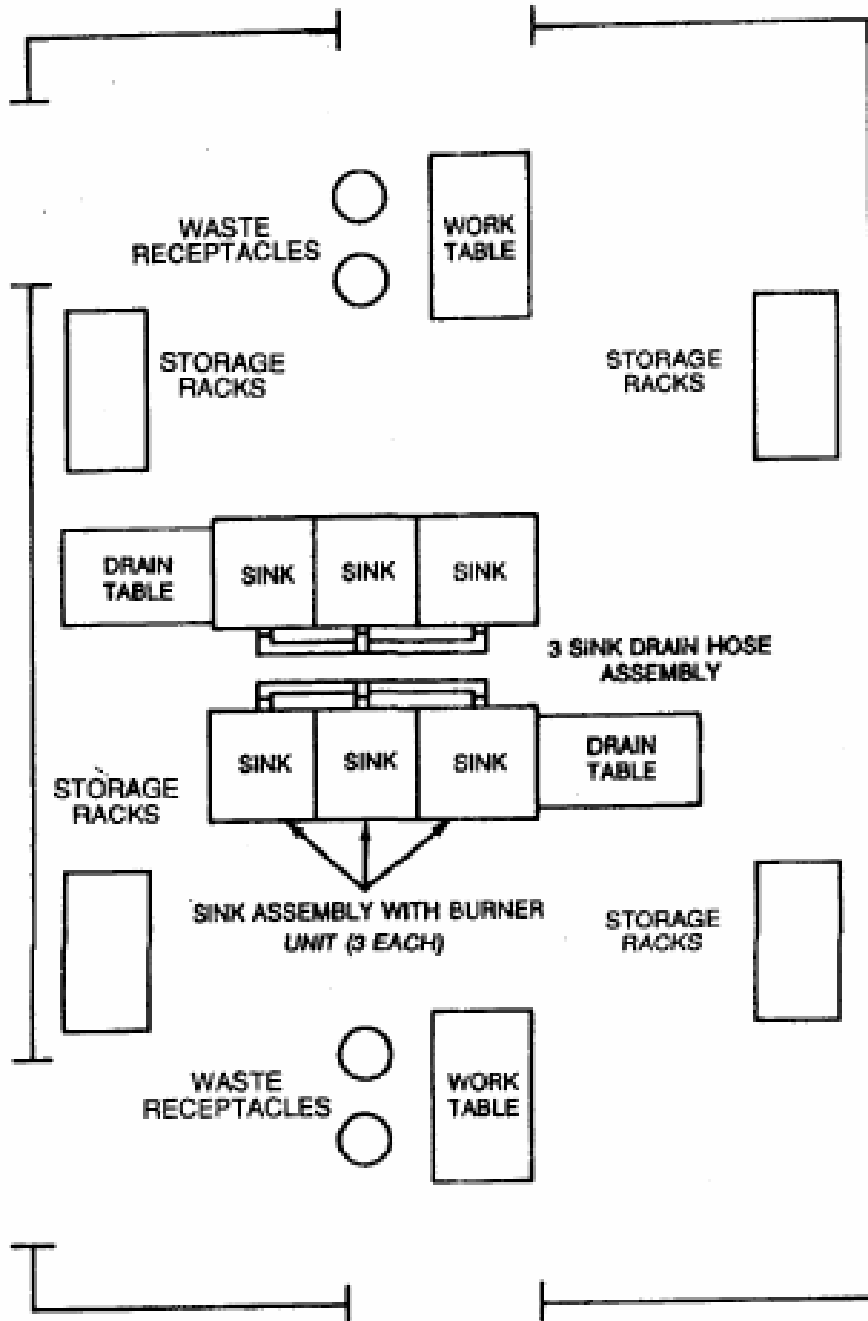

Figure 8. Optional Two FSC Configuration.
- b. Assemble and set up remaining equipment in accordance with the Assembly and Preparation For Use procedures in this work package and as shown in Figure 8.